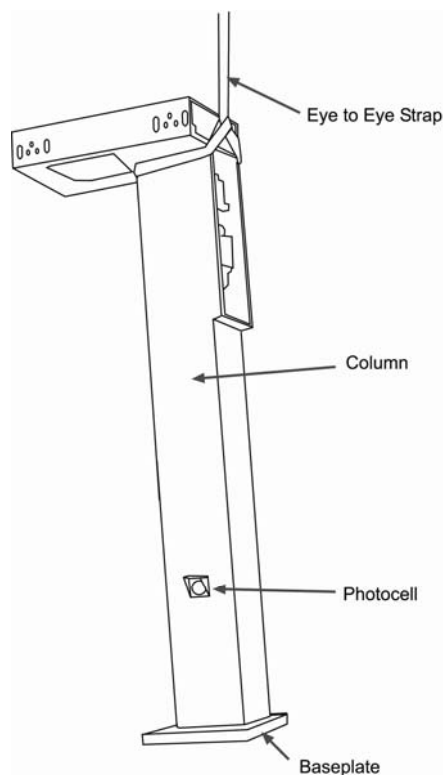

FIGURE 4.3
1. Using lifting device (forklift/Crane) and eye to eye (recommended 2" x 16' long) strap, raise column into place (See figure 4.3).